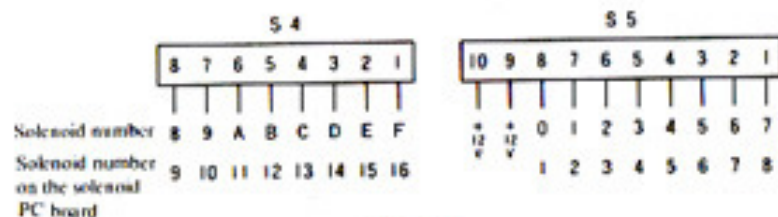

Figure 9-2
- ② Check the resistance between pin 9 or 10 of the S5 connector and the pin of the connector which corresponds to the unenergised armature. (Refer to figure 9-2. In picture 9-1, there is a problem in pin 10 of S5 or pin 9 and pin 4 of S4). Resistance should be within 140 - 150 Ω . If it is not, there is a problem, which may be found with the check given below. If no problem is found in the resistance values, perform the check given in 9.5.